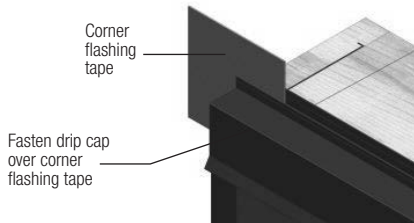

FIG. 17
- B) Apply a 1/4" continuous bead of 100% silicone sealant to the backside of the drip cap nailing fin. Install the drip cap flashing across the top of the door. Secure it to the framing using galvanized roofing nails near the top of the vertical leg. (Fig.17)